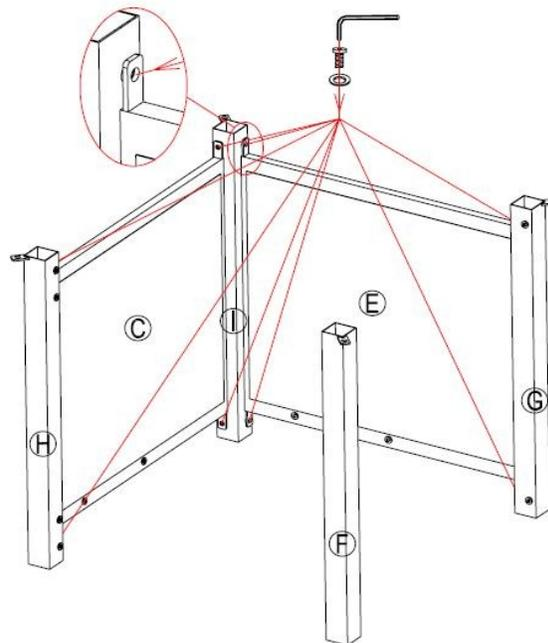

Figure 2
2. Attach the Left Panel (C) to Front-Left Leg (H) and Back-Left leg (I) with Bolt (AA) and Washer (BB) by using the Hex Screw Driver (CC). Attach the Back Panel (E) to Back-Right Leg (G) and Back-Left leg (I) with Bolt (AA) and Washer (BB) by using the Hex Screw Driver (CC), (see Figure 2).